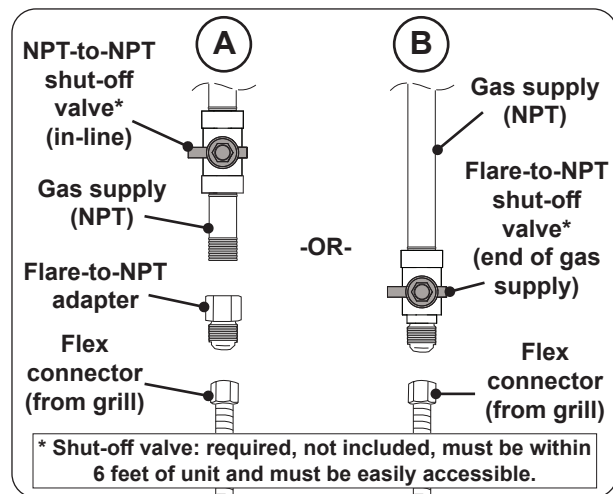

Fig. 29-1 Connecting to a gas line
- Install the supplied flare-to-NPT adapter to the gas supply (NPT) using a pipe joint compound resistant to all gasses (see Fig. 29-1, A). Tighten securely.
- Connect the flex connector to the adapter (see Fig. 29-1, A). Tighten securely.
- Connect the flex connector to the shut-off valve (flare) (see Fig. 29-1, B). Tighten securely.